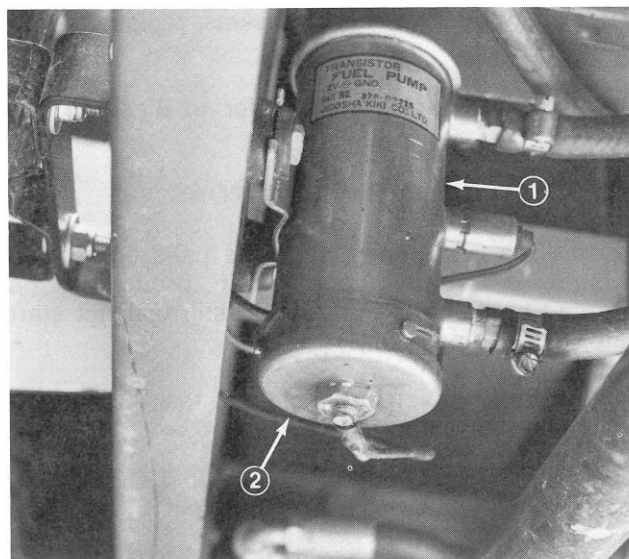

Figure 36
1. Fuel pump is located on inner frame at right rear of engine (Fig. 36).